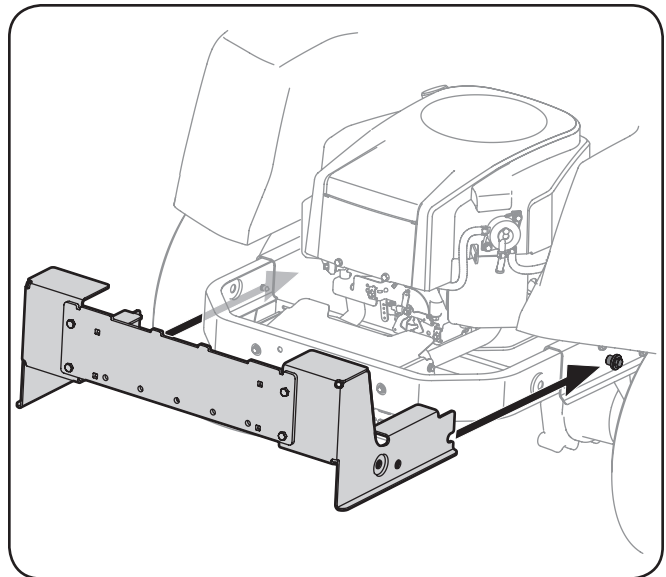

Figure 4-2
1. Slide the mounting bracket assembly along the frame rails of the tractor until the hooks in the mounting brackets align under the shoulder bolts on your tractor, as seen in Figure 4-2.